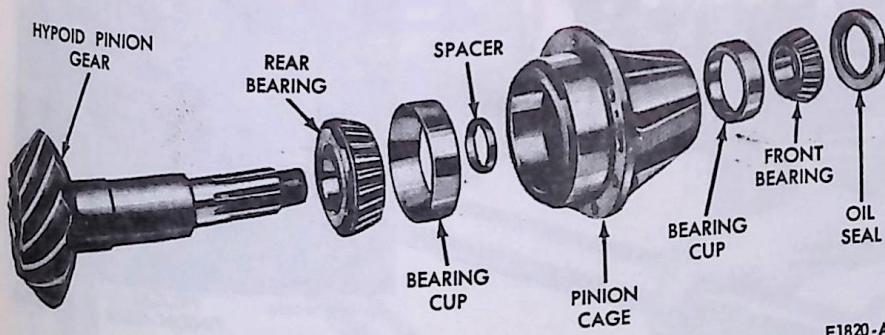

FIG. 21 Hypoid Pinion Cage Disassembled
5. Clean and inspect all the parts (Fig. 21), using the procedures given in Part 15-01.
5. Place the pinion cage and gear in a hydraulic press so that the gear rests on the press bed. Then position the original bearing preload spacer (Fig. 21) on the pinion gear shaft.